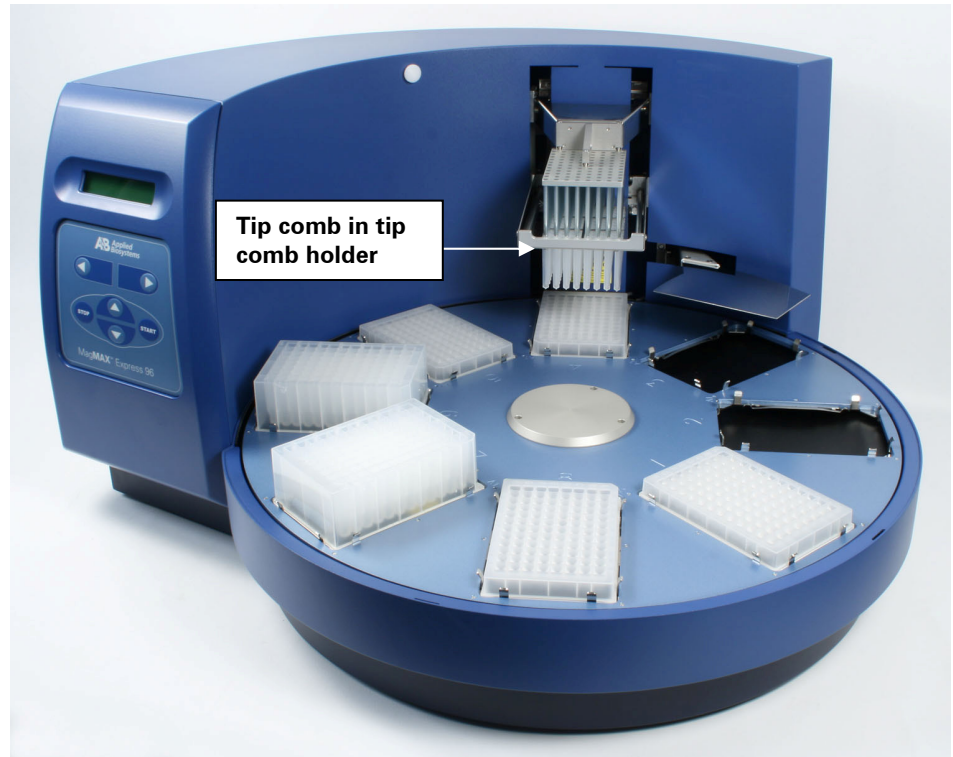

Fig. 6.10 Tip comb in the tip comb holder
4. The tip comb is automatically locked onto the tip comb holder from the tip-plate (Fig. 6.10).